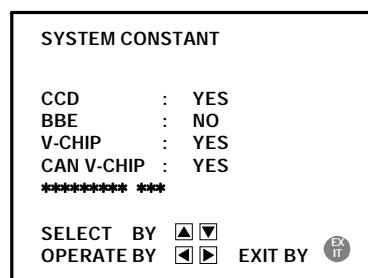

Fig.2
- 3) While the SERVICE MENU is displayed, again simultaneously press the **DISPLAY** and **VIDEO STATUS** keys to display the Fig.2 SYSTEM CONSTANT screen.